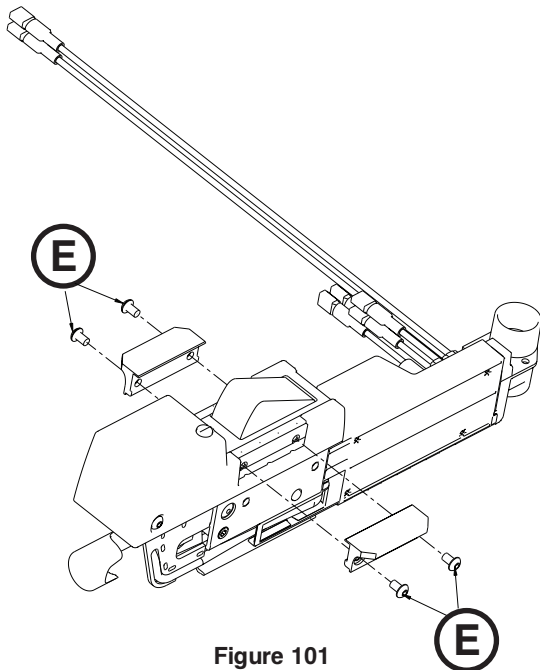

Figure 101
12. Using a T25 Torx driver, remove the four button head cap screws (E) that secure the two retainer wings and remove the retainer wings (Figure 101). Save all parts for reinstallation.